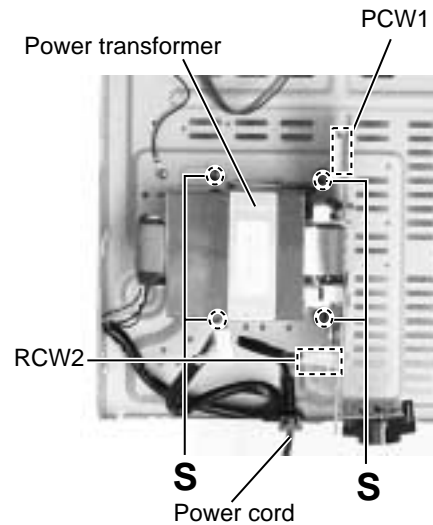

Fig.18
■Removing the power transformer (See Fig .18)